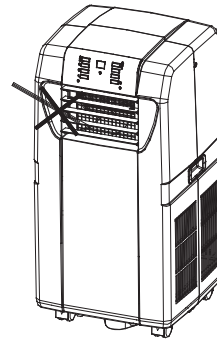

FIG. 2
- DO NOT PLACE OBJECTS ON THE UNIT, AND DO NOT COVER OR OBSTRUCT THE INLET OR OUTLET GRILLS (FIG. 2).